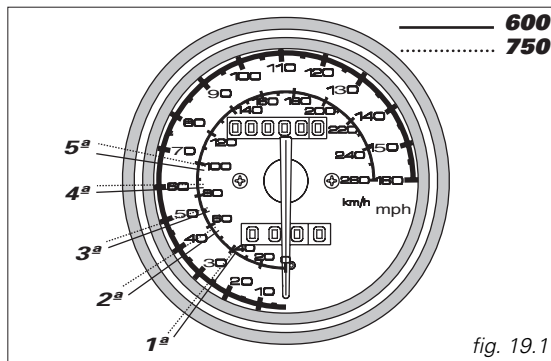
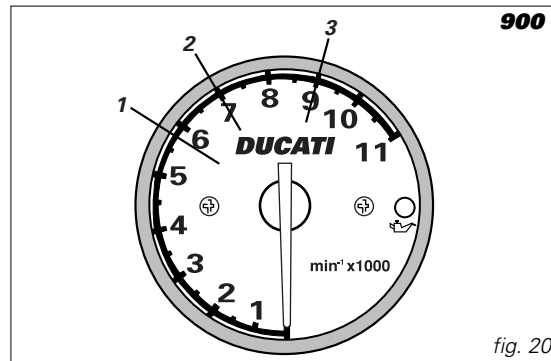

fig. 19.1
fig. 20
During the first 1000 km, keep the revolution meter under control. The indicator must not exceed: speed as indicated for the each gear (600/750) (fig. 19.1); 5500-6000 rpm (900) (fig. 20).
7000 rpm (900) (fig. 20).
900 models (fig. 20): 9000 rpm.